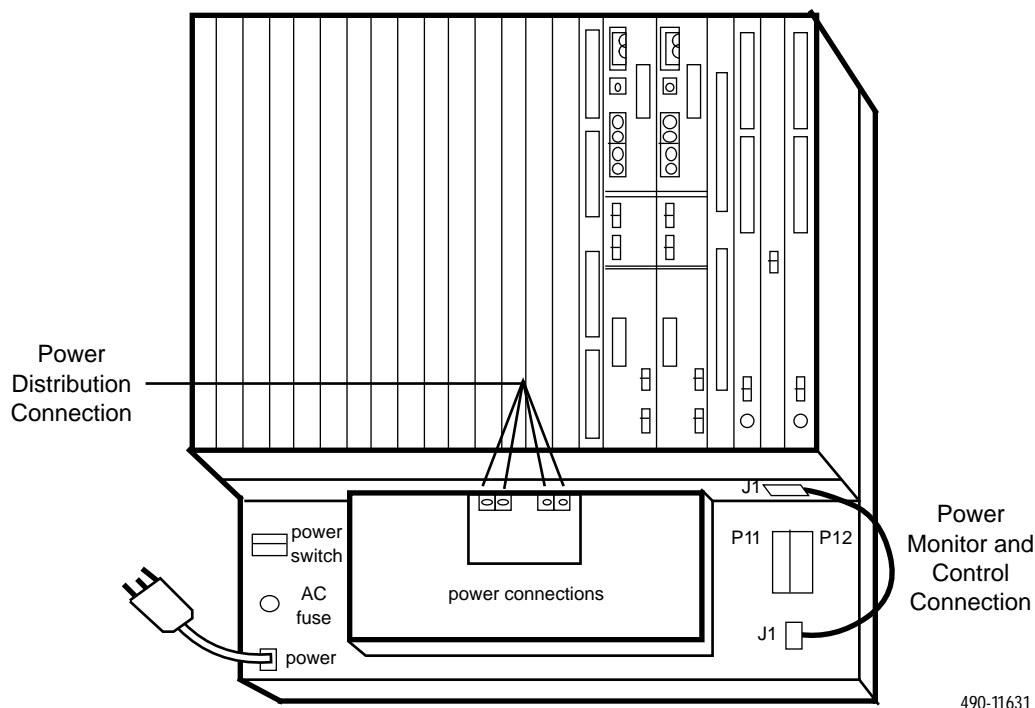

Figure C-1. Power Connections for 740 Multiplexers without Expansion Shelf
- b. Check the power distribution connections. Figures C-1 and C-2 show the locations of these connections on the 740 multiplexer (both with and without the expansion shelf). Figure C-3 shows the location of these connections on the 745 multiplexer.
- c. Check the power supply monitor and control connections. Refer to Figure C-1, C-2, or C-3 for the connections appropriate to your multiplexer.